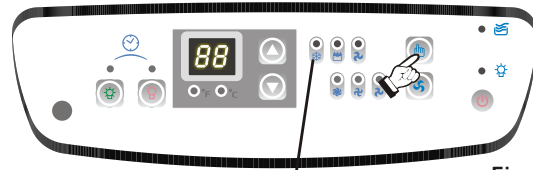

Fig. 10
- 3) Press the **MODE** key until the **COOL** indicator light comes on(Fig.10). Each depression of the **MODE** key will advance to a different mode setting (**Cool-Dry-Fan**).